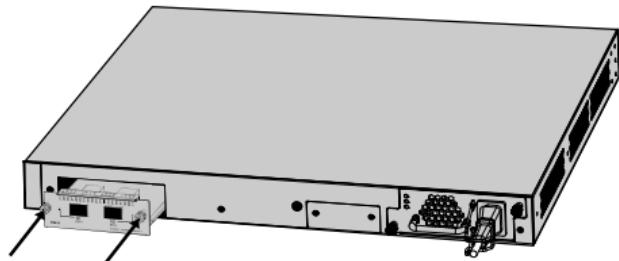

Figure 2-2 Install an interface card (2)
3. Hold the fastening screws on the front panel of the interface card, and gently push the interface card in along the slot guide rail until the interface card is flush with the switch, as shown in Figure 2-2.